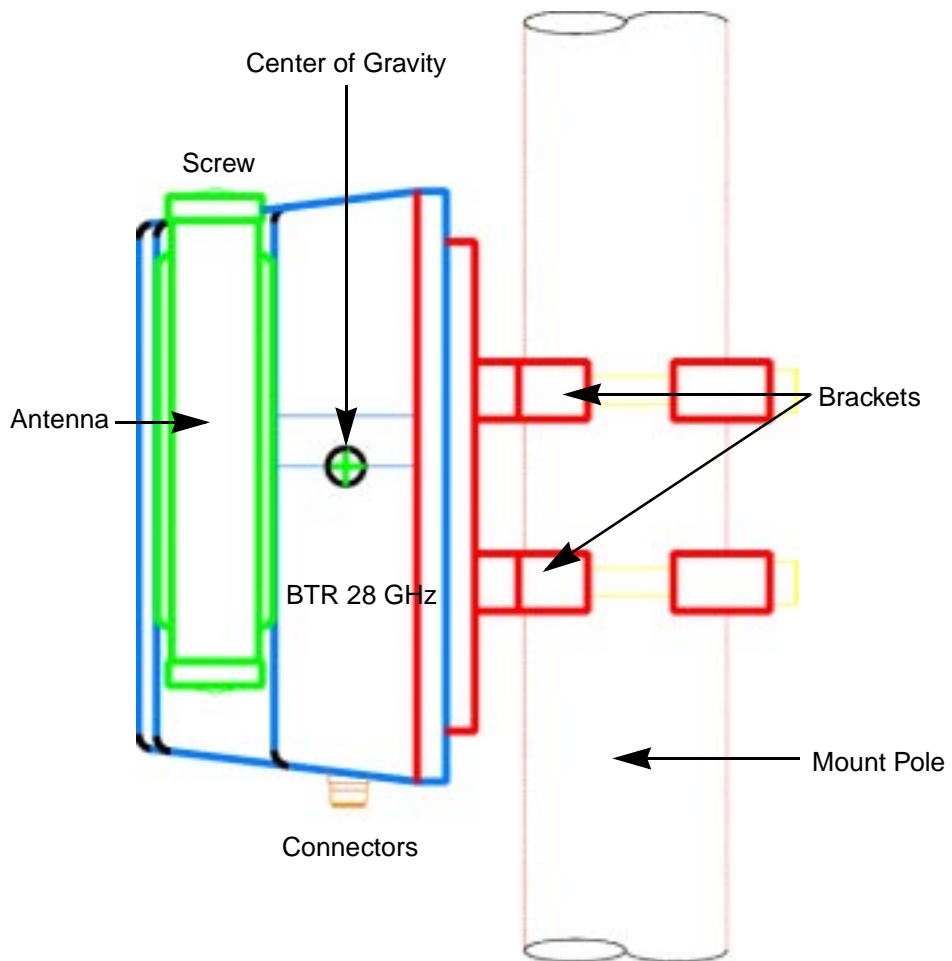

Figure 1-13
12. The BTR 28 GHz has a vertical range of motion of +7° over and -23° under the horizon, as shown in Figures 1-13 and 1-14.